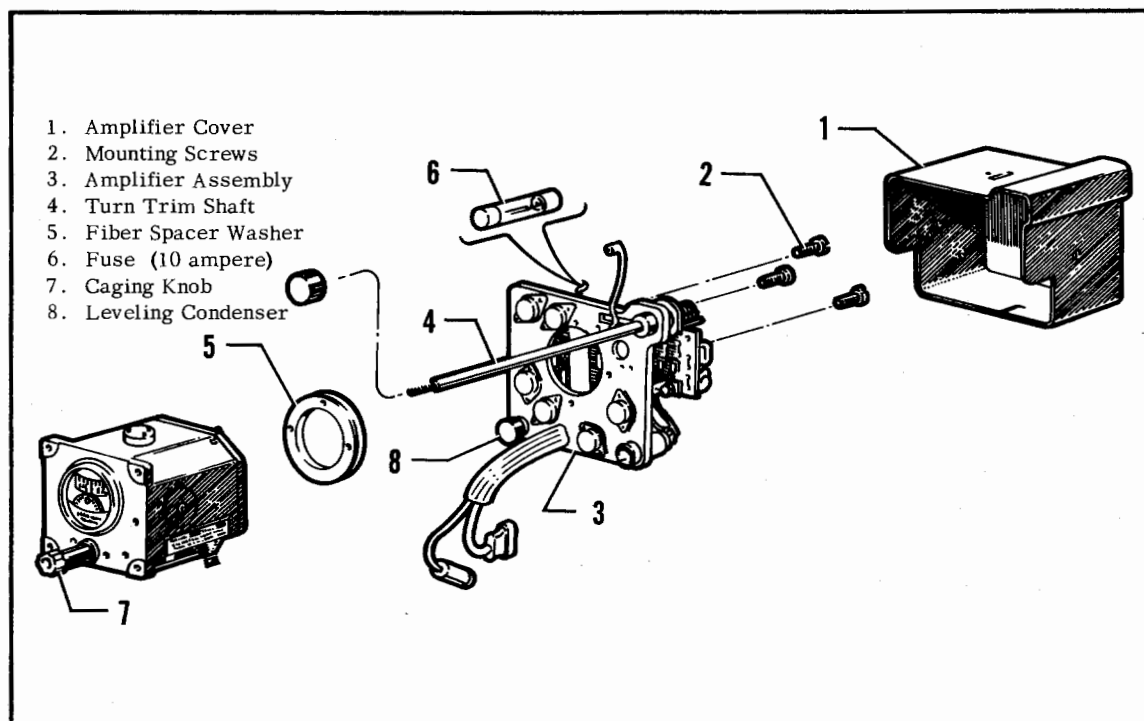

Figure 2-1. Directional Gyro with Amplifier
1. Remove the Amplifier cover. (See 1, figure 2-1)
3. Remove three screws (2) and separate the Amplifier from the instrument.